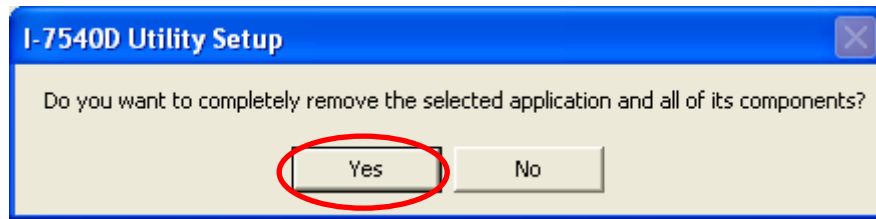

Figure 3-11: Click the button “Yes” to remove the software
**Step 5:** Click the button “Yes” to remove the software as shown in figure 3-11.